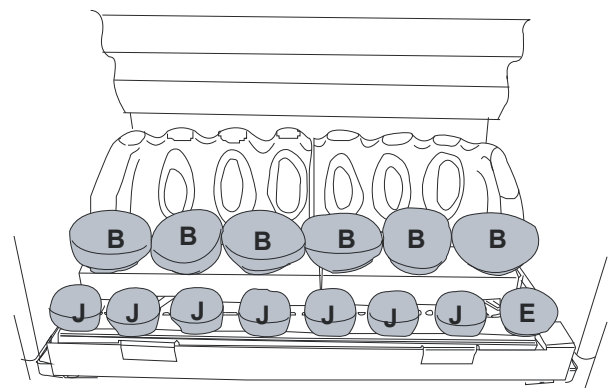

Figure 37
4. Insert the **J & E** pebbles centrally onto the spikes and place the **B** pebbles on the middle matrix ensuring the same orientation as shown in **Figure 37**.